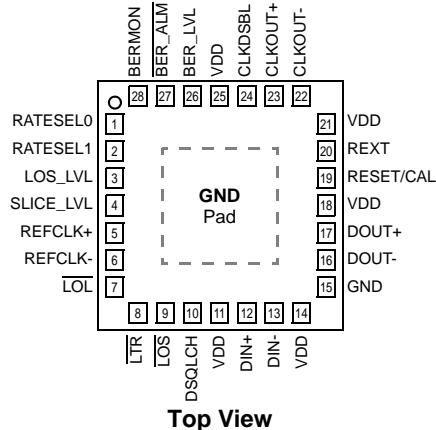
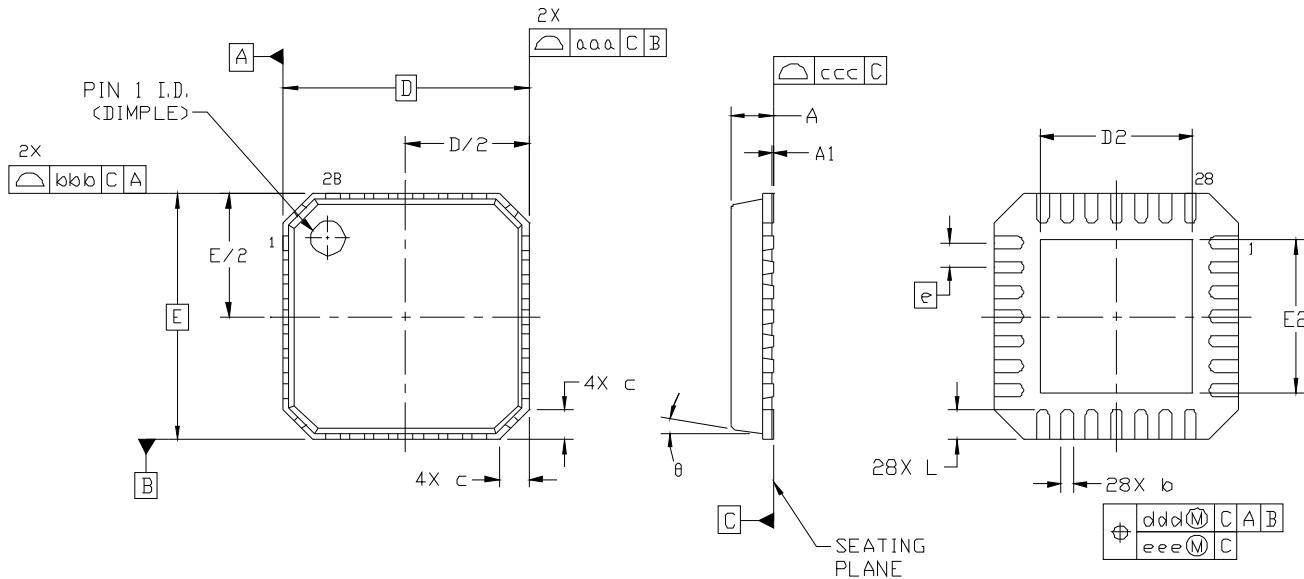

Figure 21. Si5023 Pin Configuration
Figure 22. 28-Lead Quad Flat No-Lead (QFN)
The Si5023 uses the GND pad on the bottom of the 28-lead micro leaded package (QFN) for device ground. This pad should be connected directly to the analog supply ground. See Figure 21 on page 22 and Figure 22 on page 26 for the ground (GND) pad size and location.
Figure 22 illustrates the package details for the Si5023. Table 10 lists the values for the dimensions shown in the illustration. For a pad layout recommendation please contact Silicon Laboratories.
- Updated Figure 22, "28-Lead Quad Flat No-Lead (QFN)," on page 26.